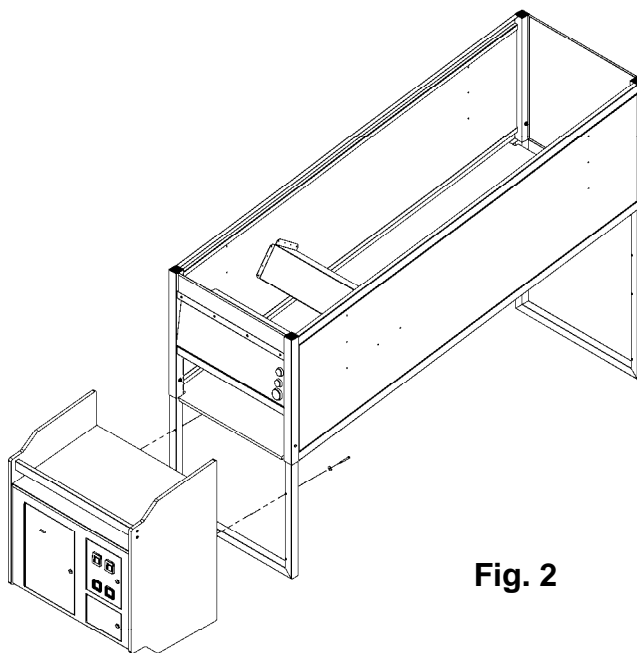

Fig. 2
5. Move the cabinet to the front of the frame and bolt it to the frame by installing the mounting bolts through the back of the front legs and into the front cabinet's mounting holes. Secure with (6) 1/4-20 X 3" security head Allen bolts and 6 flat black washers. (See Fig. 2)